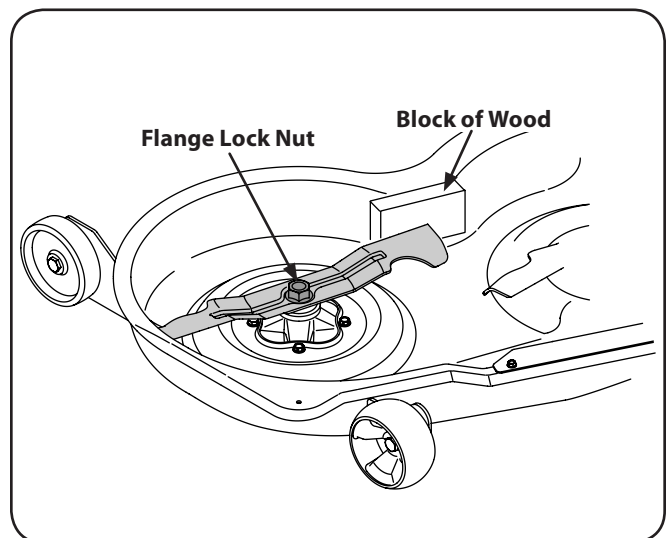

Figure 7-6
- Place a block of wood between the center deck housing baffle and the cutting blade to act as a stabilizer. See Figure 7-6.
- Remove the flange lock nut that secures the blade to the spindle assembly. See Figure 7-6.